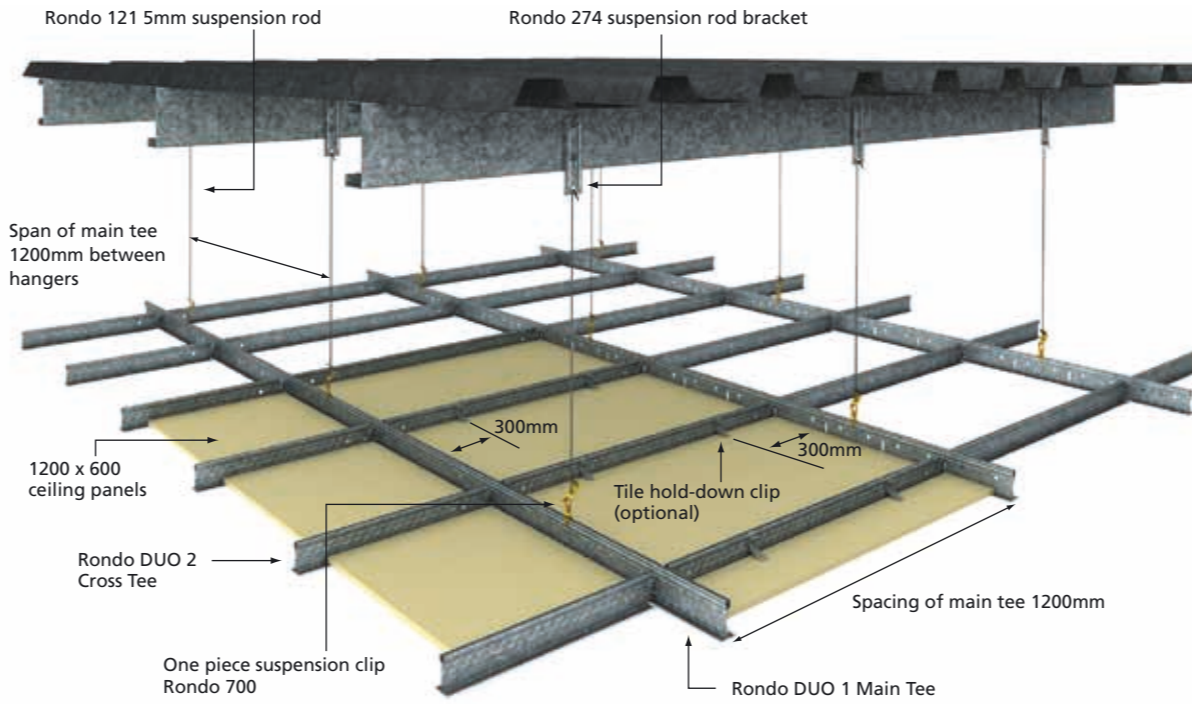

FIGURE 2: TWO-WAY EXPOSED CEILING SYSTEM DETAIL
- Fix the Main Tee suspension brackets as per Figures 2 & 6. Ensure the suspension brackets are installed at no more than 1200mm centres and spaced 1200mm on either side. Ensure the hanger points are set out so that hangers adjacent to the perimeter walls are no more than 300mm from the wall unless otherwise specified.